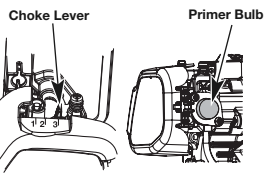

Fig. 8
- Slowly press and release the primer bulb **10 times** (Fig. 8). If fuel cannot be seen in the primer bulb, press and release the primer bulb until fuel is visible.
- Move the choke lever to **Position 1** (Fig. 8).
- Continue to squeeze the throttle control. Move the choke lever to **Position 2** (Fig. 8).
- Continue to squeeze the throttle control. Move the choke lever to **Position 3** (Fig. 8) and continue warming the engine for an additional 60 seconds. The unit may be used during this time.
- IF...** the engine hesitates, return the choke lever to **Position 2** (Fig. 8) and continue the warm-up.